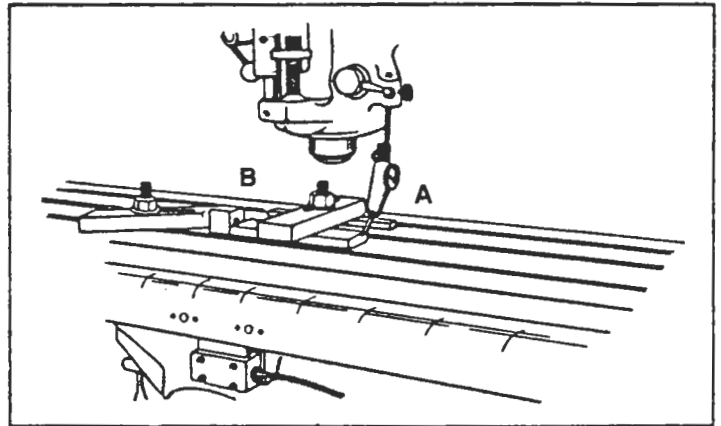

Figure 4-3. Simplified Set-up for Measuring Abbe Error
1. Mount a calibrated standard as shown in Fig. 4-3 (The standard should have a recent certificate of accuracy calibration. Check for corrections to the true piece yourself. Do not rely on the opinions of others.) Mount the standard at a height at which the work is normally placed.
2. Locate the indicator at Point A as shown in Fig. 4-3. Zero both the AR-III console & indicator.